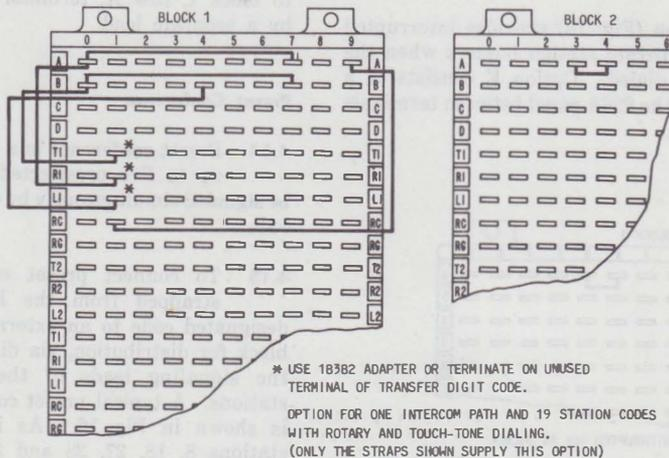

Fig. 11—N Option
4.08 The N option (Fig. 11) provides for one intercom path with 19 station codes. Stations can utilize both rotary and TOUCH-TONE dialing. Digit 1 is used as the transfer digit and is not available for a station code. Station codes 10